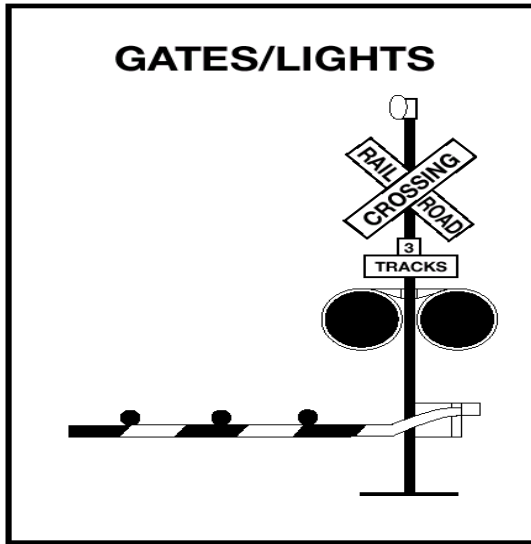

Figure 2.18
**Flashing Red Light Signals.** At many highway-rail grade crossings, the crossbuck sign has flashing red lights and bells. When the lights begin to flash, stop! A train is approaching. You are required to yield the right-of-way to the train. If there is more than one track, make sure all tracks are clear before crossing. See Figure 2.18.
**Gates.** Many railroad-highway crossings have gates with flashing red lights and bells. Stop when the lights begin to flash and before the gate lowers across the road lane. Remain stopped until the gates go up and the lights have stopped flashing. Proceed when it is safe. See Figure 2.18.